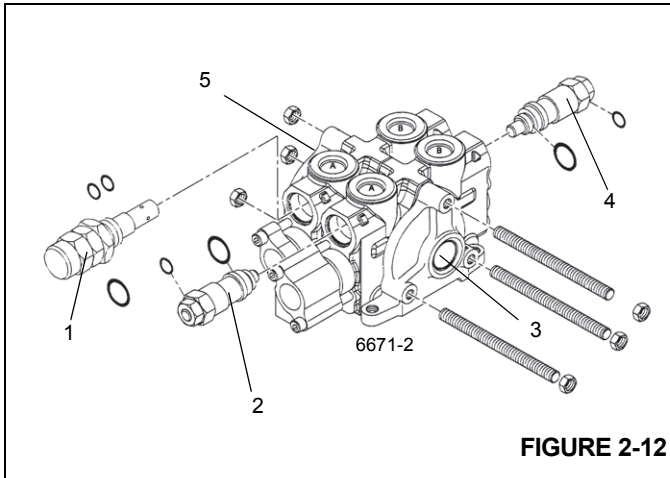

FIGURE 2-12
1. Install pressure check diagnostic quick disconnect with gauge onto test nipple at swing valve inlet test port Figure 2-12.